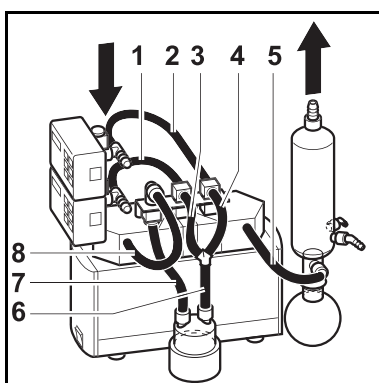

Fig. 18: Tubing system SCC
8	Tubes (see fig. 18) ▪ Resistant to the medium employed ▪ Inside diameter 10 mm ▪ Length: (1) approx. 320 mm, (2) approx. 260 mm, (3,4) approx. 120 mm, (5) approx. 220 mm, (6) approx. 135 mm, (7) approx. 175 mm, (8) approx. 350 mm
5. Lay hoses for system (see fig. 18).